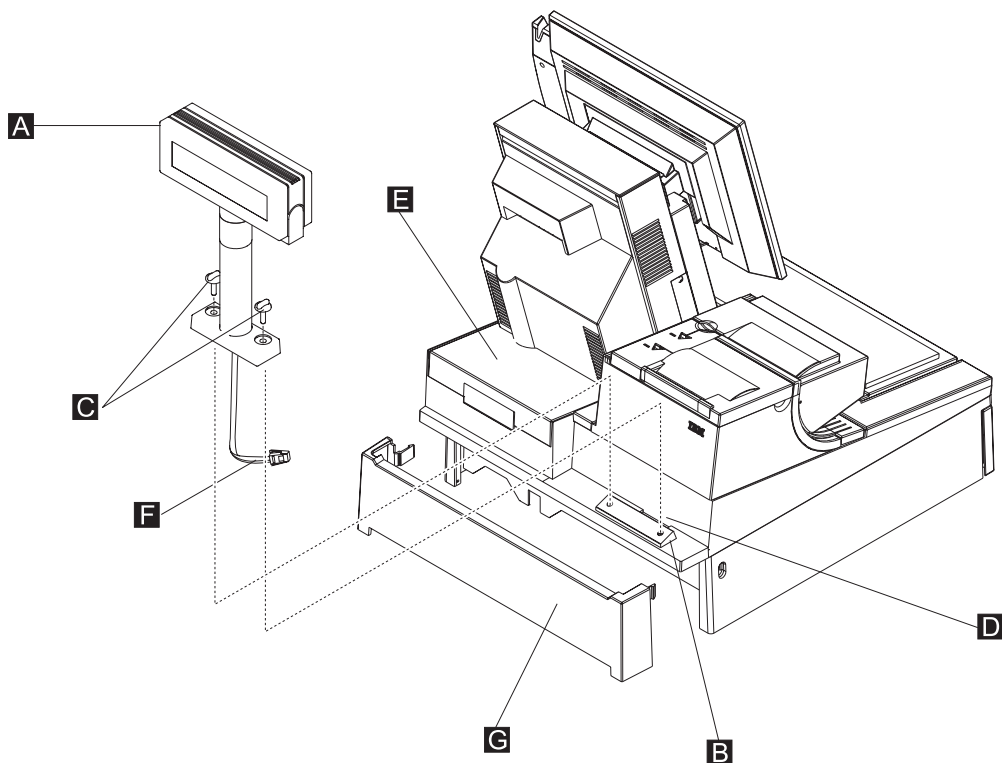

Figure 68. Remove the distributed character display from a full-size integration tray
- b. Unroute the distributed character display cable **F** to enable the distributed character display to be removed, as shown in Figure 68.